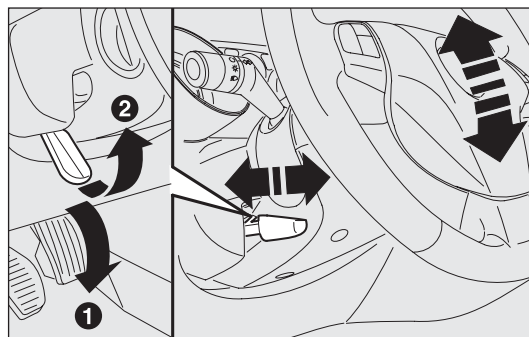

fig. 35
- ☐ release lever A-fig. 35 by pushing it forwards (position 1);